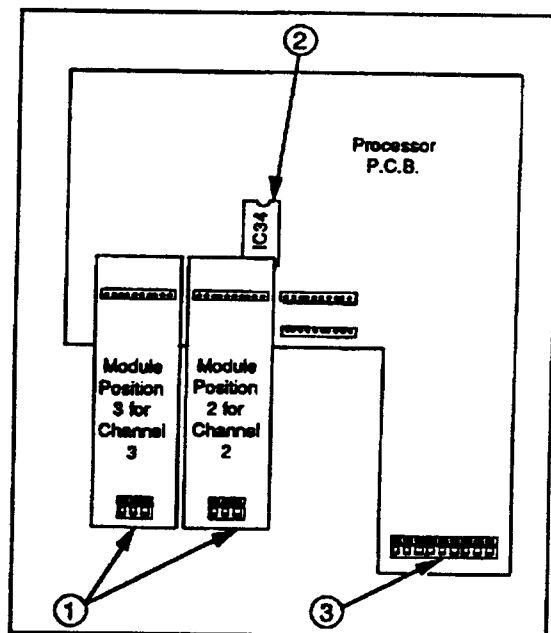

Figure 12-4. Isolated Input Module
- ① Identify the required module position(s) and install the Type K module(s). Set the links on the 'K' module(s) to suit the input. See Section 4.4.1.
- ② Install IC34 as indicated in Figure 12-4, making sure of the correct orientation and using approved anti-static methods.
- ③ On the Processor printed circuit board identify and remove the process input connection(s) from channels 2 and/or 3 as required.